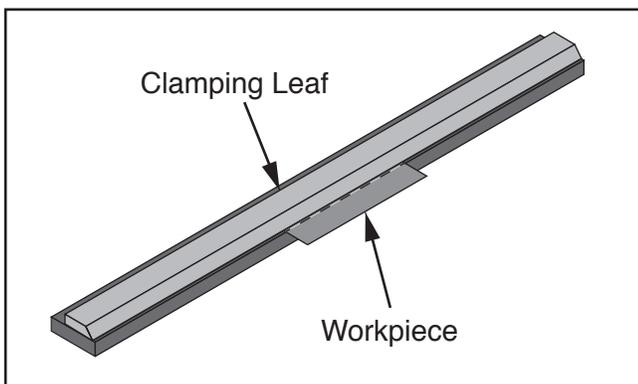

Figure 31. Narrow clamping leaf aligned with bend mark.
2. Secure workpiece on machine with narrow clamping leaf, aligning front of leaf with line marked in **Step 1** (see **Figure 31**).